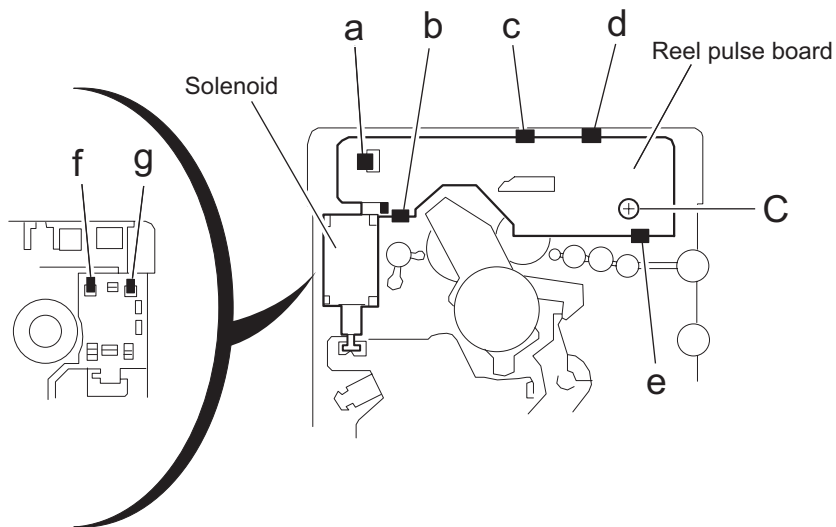

Fig.10
3.3.5 Removing the reel pulse board and solenoid (See Fig.10)